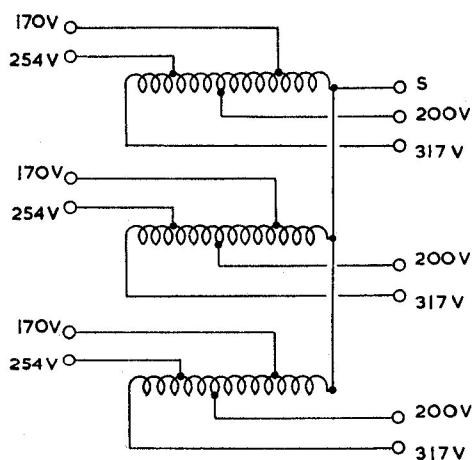

Fig. 1. Diagram of internal connections
1. The P2401/1 transformer is identical with that described and illustrated in the main chapter; the transformer connections and voltages are shown in the circuit diagram (fig. 1).